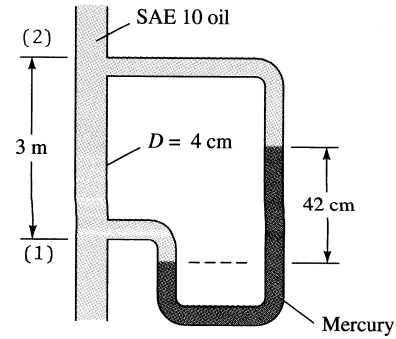

Fig. P6.30
**6.30** SAE 10 oil at 20°C flows through the 4-cm-diameter vertical pipe of Fig. P6.30. For the mercury manometer reading  $h = 42$  cm shown, (a) calculate the volume flow rate in  $\text{m}^3/\text{h}$ , and (b) state the direction of flow.